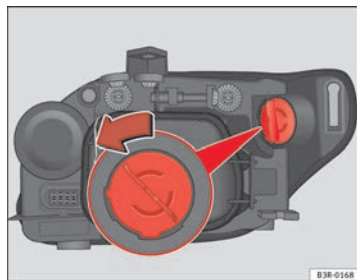

Fig. 205 Turn signal
- Turn the bulb holder anti-clockwise, pulling it by the grip ⇒ fig. 205 and removing the bulb holder and the bulb.